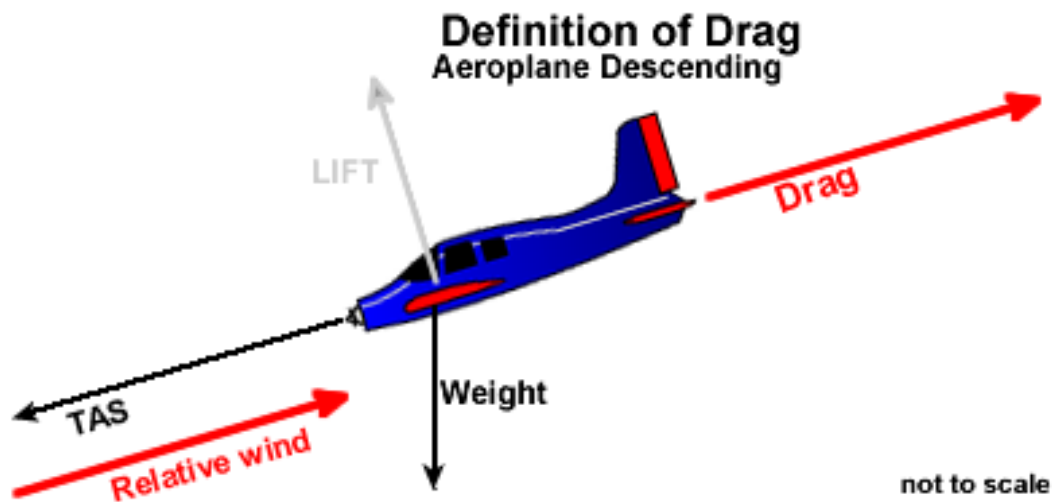

Figure 21
Drag (D) is the force that acts parallel to the relative wind, which is synonymous with saying opposite to the direction of flight. Consider Figure 21, where you can see that drag is not horizontal – it is parallel to the relative wind. (You can also see that drag is always perpendicular to lift.)